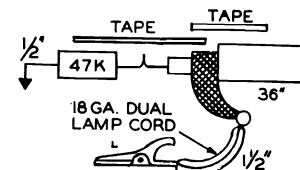

Fig. 5 DECOUPLING FILTER
4. Connect oscilloscope high side to test point "V" through decoupling filter of figure 5, low side to chassis.